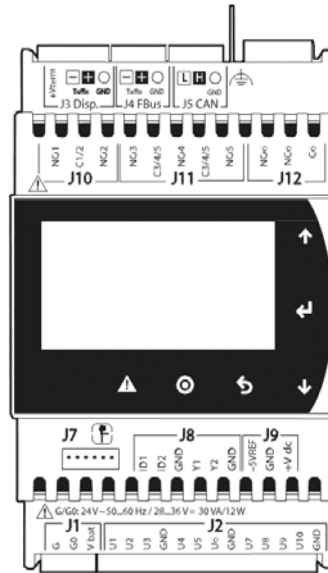

Figure 1
2. LW Controller Details (Figure 1)
Your Desert Aire CM3540 Controller is pre-programmed and configured at the factory for use in the application specified. The internal display (IDT – Figure 1) allows the operator to monitor the operation and adjust the set points of your Desert Aire LW dehumidifier.